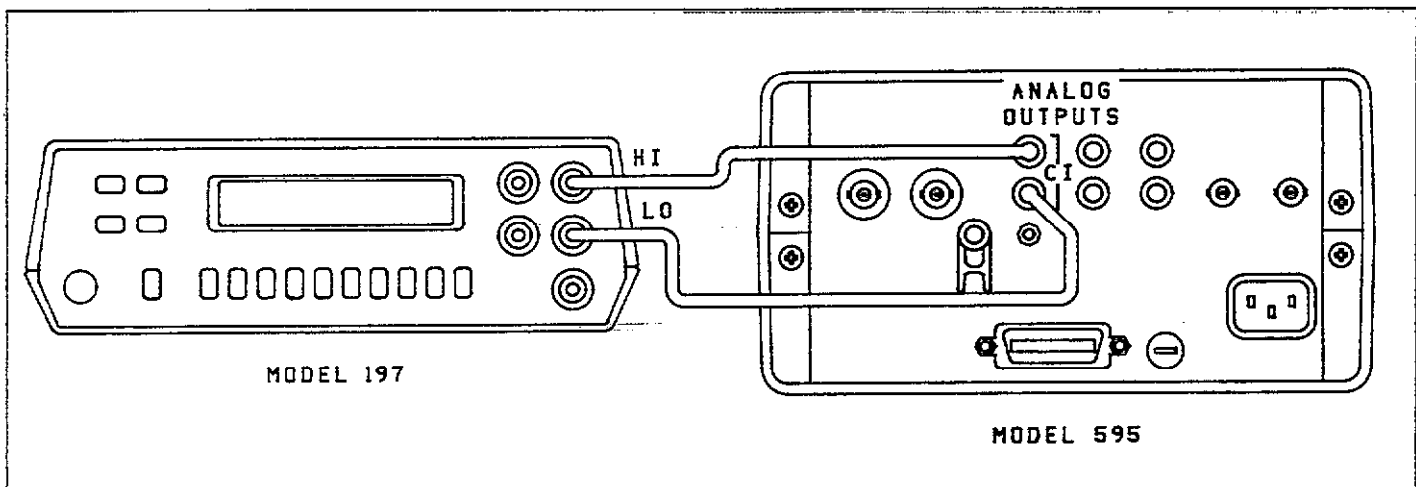

Figure 8-8. C, I Analog Output Calibration Setup
3. Using the DMM, monitor C,I ANALOG OUTPUT at the rear panel of the Model 595 as shown in Figure 8-8. Verify that the offset voltage is less than 2mV.